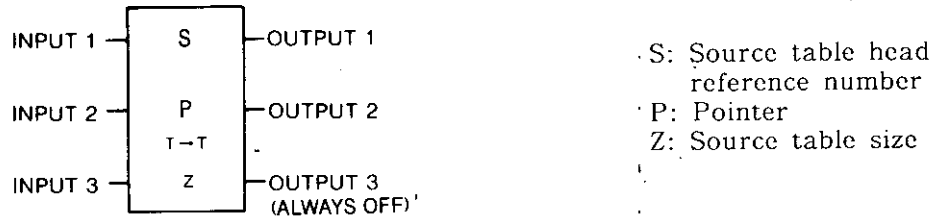

Fig. 5.54 T → T General Form
- Fig. 5.54 shows the form of table-to-table.